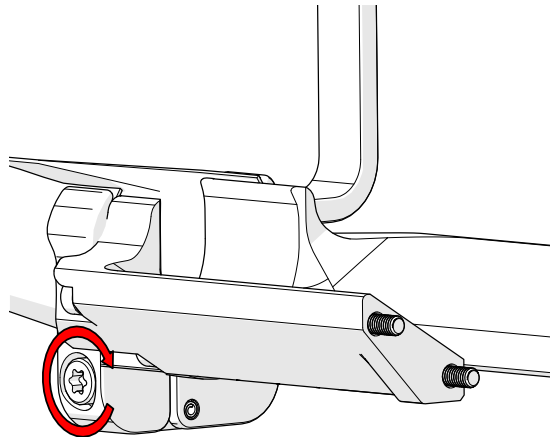

Fig. 66 - Tighten clamp screw
5. Tighten 3 mm hex screw (Fig. 66).